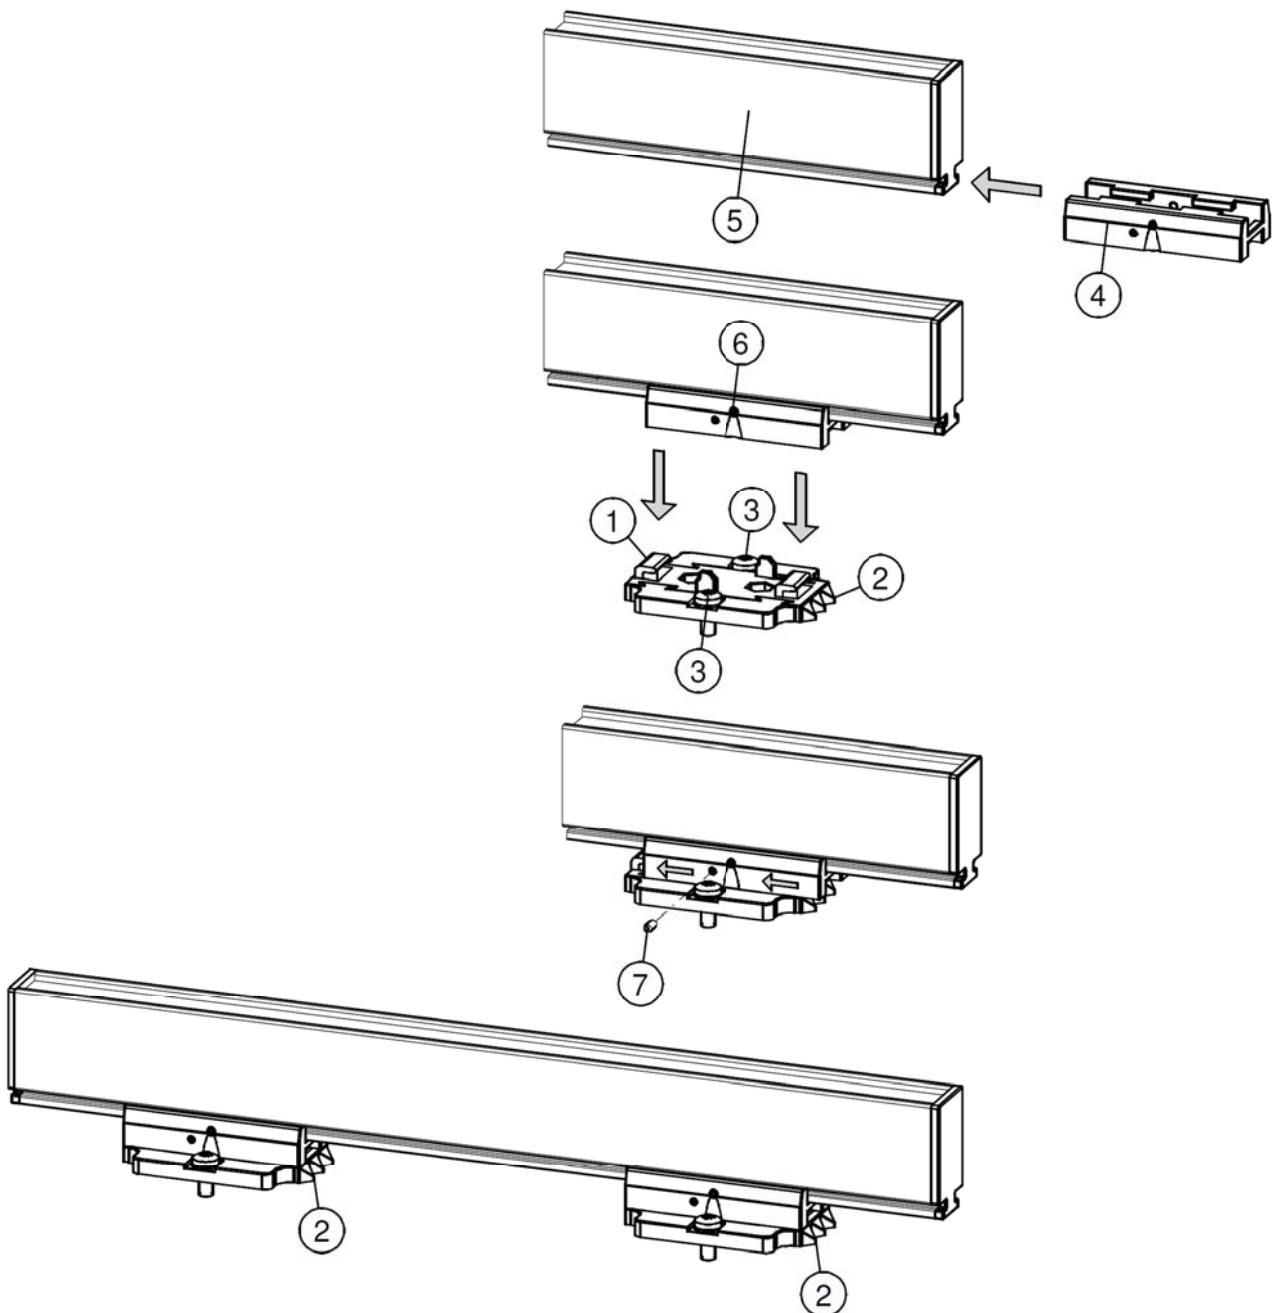

Figure 7: Fixing Sensor with mounting brackets
- Conductive machine parts close to an IQ Easy Sensor may have a negative influence on its effectiveness. For the best results the Sensor should be mounted according to figure 7.
- Unscrew the adjusting screws (nr. 7) from the brackets (see figure 7).